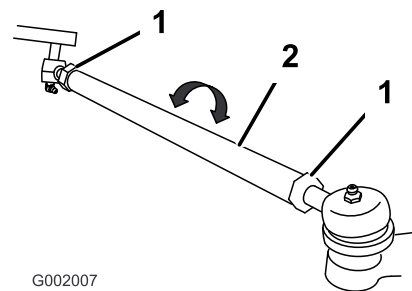

Figure 52
- If the measurement does not fall within the specified range, loosen the jam nuts at both ends of the tie rods (Figure 52).